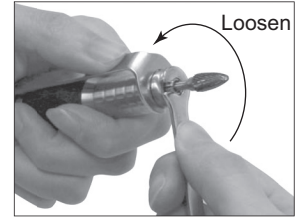

Fig. 6
* The collet might be fastened and the cutting tool could not be removed, if the cutting tool with large diameter is used under a high torque. Align the nose's slit and Attachment's wrench position, and put an L shaped wrench to fix the Attachment. Open the ring, remove the dust proof cap to the tip of the collet and turn the collet counterclockwise with a wrench for replacing collets to remove it (Fig. 6).